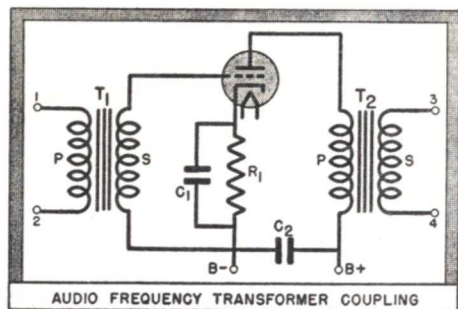
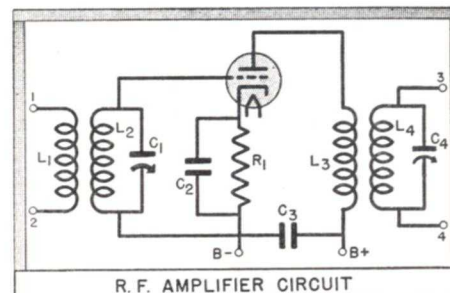

FIG. 19. Transformer coupling is employed when high gain is desired, as you will learn later.
FIG. 20. This tuned amplifier circuit is known as a r.f. stage.
Another amplifying circuit is shown in Fig. 19. Here, resistor R_1 furnishes the self-bias and C_1 is the by-pass condenser preventing any appreciable signal voltage drop across this resistor. Condenser C_2 by-passes the B supply.
The low-frequency amplifier shown in Fig. 19 uses laminated iron-core transformers, which cannot be used at frequencies higher than about 15,000 cycles per second. R.F. carrier frequencies are far higher than this, so air-core or powdered-iron core transformers must be used in r.f. amplifiers. A typical circuit for an r.f. amplifier stage is shown in Fig. 20.
It is customary to tune radio frequency transformers so that the amplifier stage will give both amplification and selectivity. Condensers C_1 and C_4 in Fig. 20 are variable condensers which are used to tune L_2 and L_4 (respectively) to some desired radio frequency. Let's see what effect the addition of these condensers has on operation of the circuit.
► Fig. 20 looks very much like Fig. 19. However, the use of air-core transformers (instead of laminated iron-core transformers) and the fact that tuning condensers are used tell us that this is an r.f. circuit exclusively; air-core transformers and tuning condensers are not used in a.f. stages.